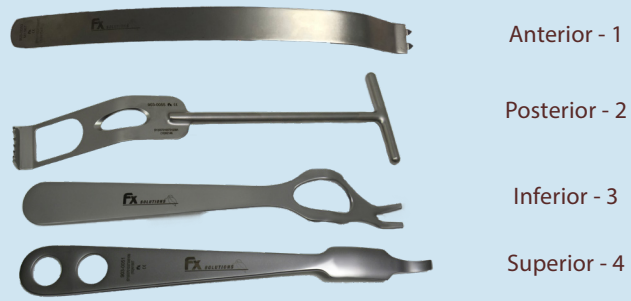

Figure 16
STEP 14: GLENOID EXPOSURE (Figure 16)